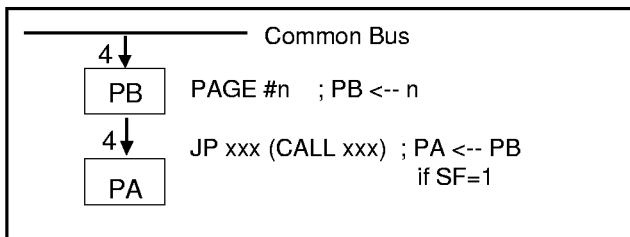

Figure 2-6. PA, PB Operations
A page select instruction (PAGE #n) loads the value "n" into the PB. When JP or CALL instruction is executed, and if the Status Flag (SF) is set to 1, the contents of PB are loaded into PA. If SF is "0", however, the JP or CALL is executed like NOP instruction and SF is set to "1". The contents of PB don't be loaded. Figure 2-6 illustrates this concept.